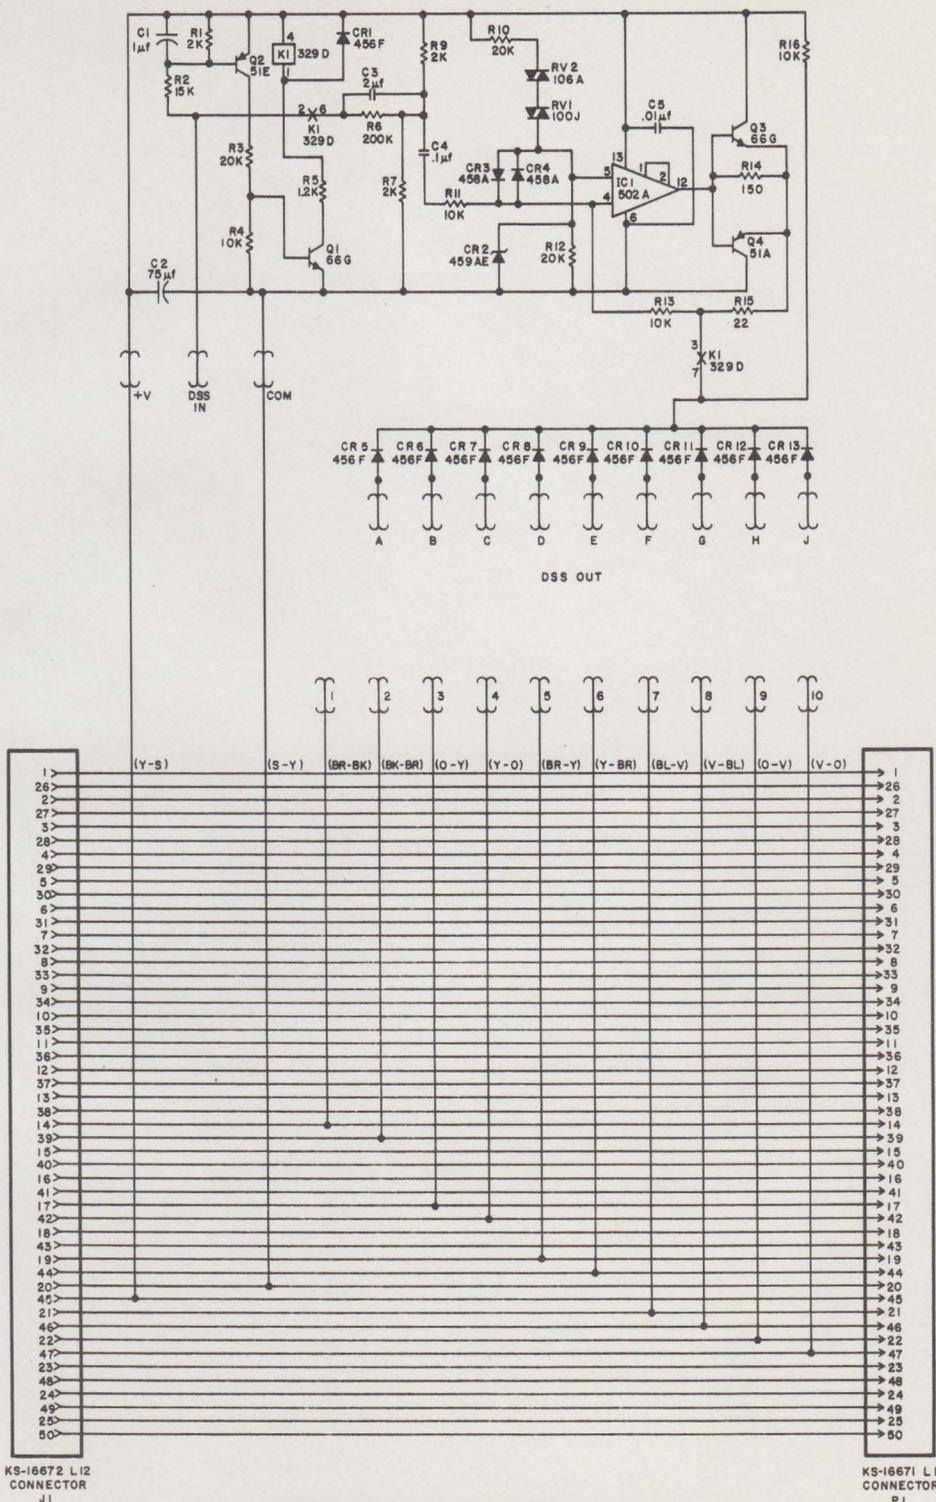

FIG.14. 26 A APPARATUS CONNECTING DIAGRAM
4.03 Determine which DSS code that will be used to access the input for multiple signaling and which DSS codes are to be called simultaneously (Figure 14) and connect as follows: